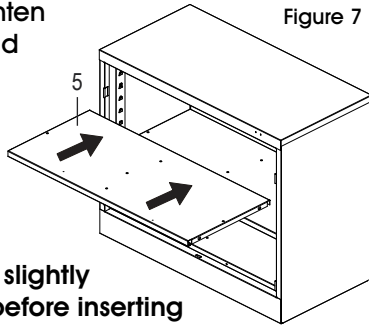

Figure 7
8. Insert shelves (5) at desired levels. (See Figure 7)